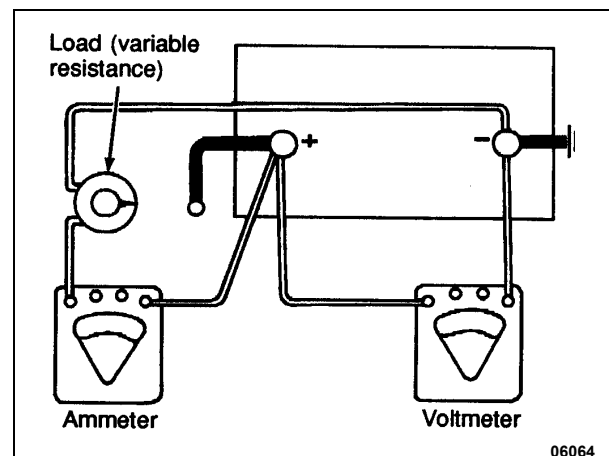

FIGURE 13: LOAD TEST
1. Connect a voltmeter, ammeter, and a variable load resistance as illustrated in Figure 13.